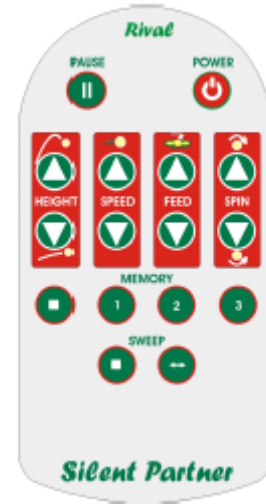

Fig. 7 Remote
- Turn the unit on by pressing the **Power Button** on the unit's back panel (Fig. 2 and 6), or use the remote (press **Power Button** for 2 seconds, Fig. 7). → The unit goes into the **Pause** mode automatically (light flashes slowly).